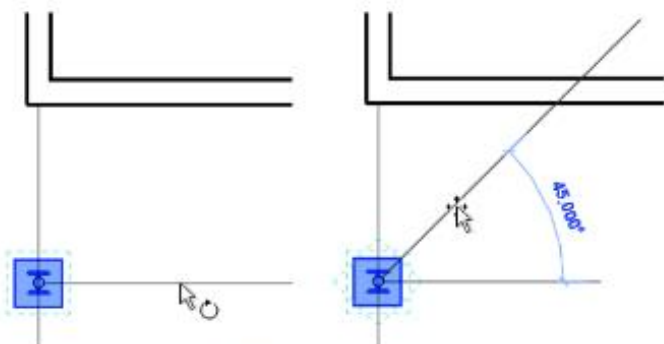

Figure 2–53
- Move the ray line until you see the temporary dimension 45.000, as shown on the right in Figure 2–53.